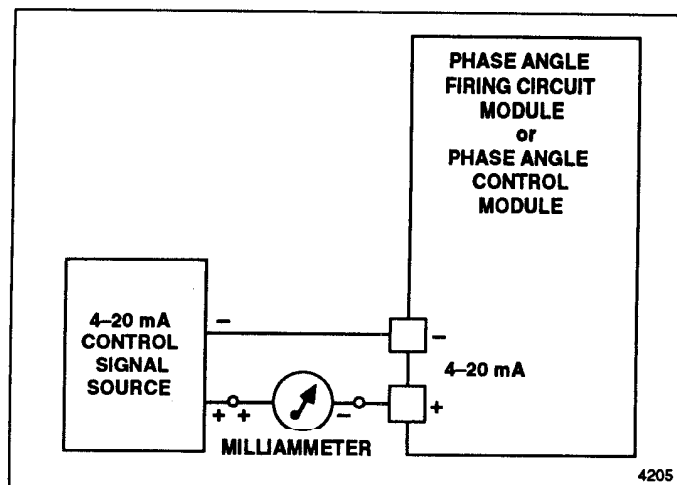

Figure 5-4. Control signal check.
- B. Using a milliammeter (see figure 5-4) verify that a 4-20 mA control signal of the proper level and polarity is reaching the firing circuit's **INPUT -** and **+ input** terminals. Be sure to check for reversed control signal polarity and for open or intermittent connections caused by loose or damaged wiring.